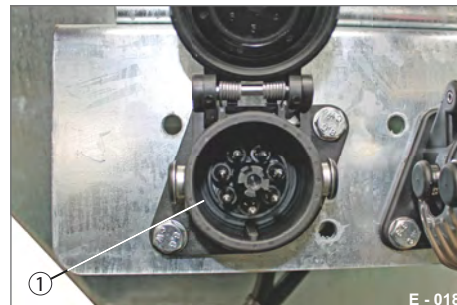
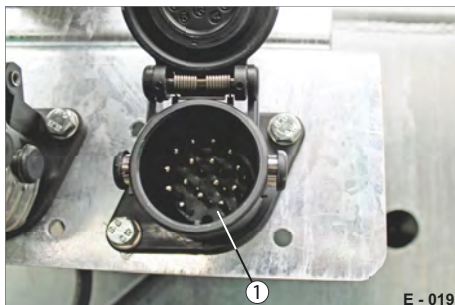

Fig. 19 EBS/ABS socket lower left
Fig. 20 Electrical system plug lower right
- ▶ Plug the required 12 V or 24 V plug in the lower multi-voltage socket (Fig. 19/1 & Fig. 20/1) on the console.